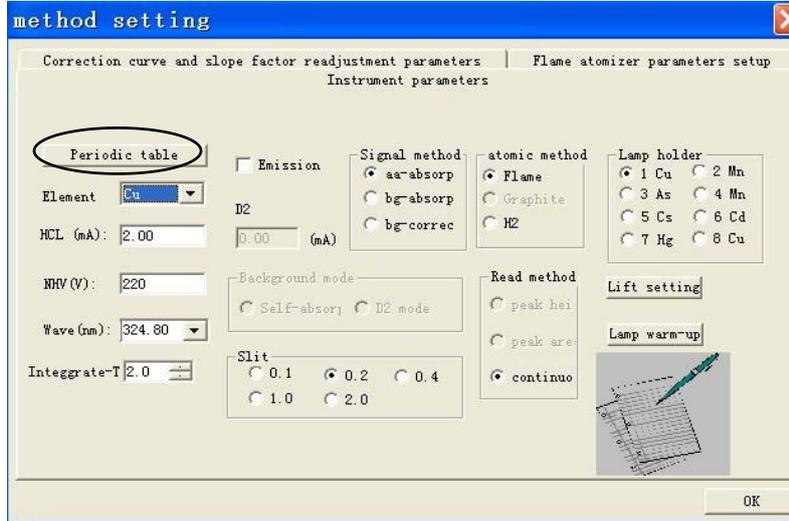
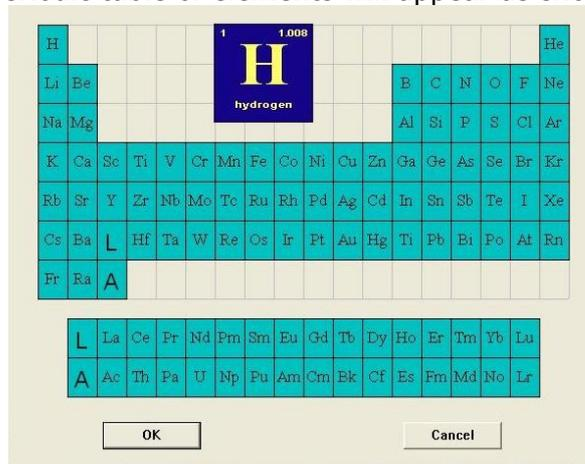

Figure 4-11
Figure 4-12
The "Method establishment" dialog has tags for "Instrument parameters", "Correction curve and slope factor readjustment parameters", and "Flame atomizer parameter setup" or "Graphite furnace atomizer parameter setup", as shown in Figure 4-11.
1. Element selection: Two methods can be used for element selection. One is clicking the "Periodic table of elements" as shown in Figure 4-11, and a periodic table of elements will appear as shown in Figure 4-12.